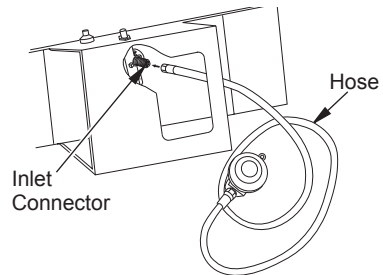

Figure 7 - Hose and Inlet Connector
3. Connect hose to valve inlet (see Figure 7). Tighten firmly using a wrench. **IMPORTANT:** Use extra hose or piping if needed. Install extra hose or piping between hose/regulator assembly and propane tank. You must use the regulator supplied with heater.